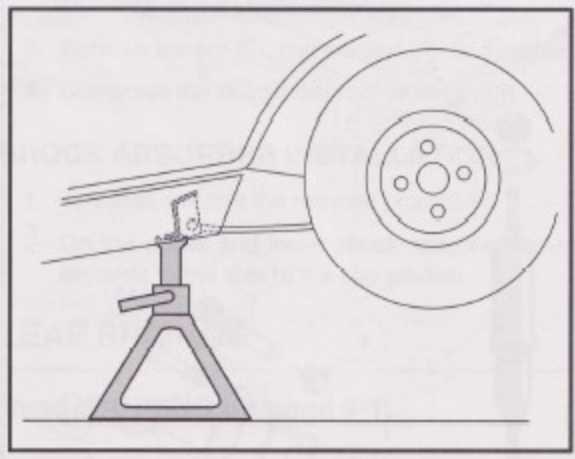

Figure 9-2
1. Loosen, but do not remove lug nuts on tire and wheel assembly on the side from which the spring is to be removed. Place chocks at the front wheels and lift the rear of the vehicle with a chain hoist or floor jack. Position jack stands under the frame cross member between the spring mount and the side stringer, just forward of each rear wheel. Lower the vehicle to let the jack stands support the vehicle (Figure 9-2). See following **WARNING**.